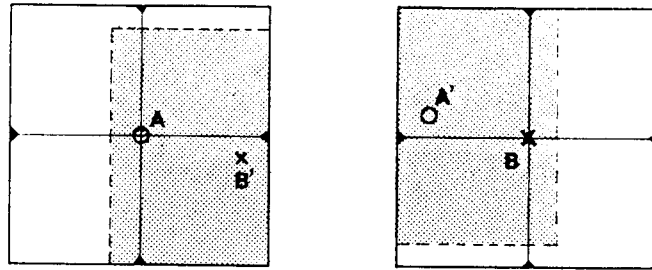

Fig. 1
2. Arrange the pictures side by side with duplicated parts (shaded) on the pictures facing inside (Fig. 1). Let the lefthand one be left and the righthand one be right.